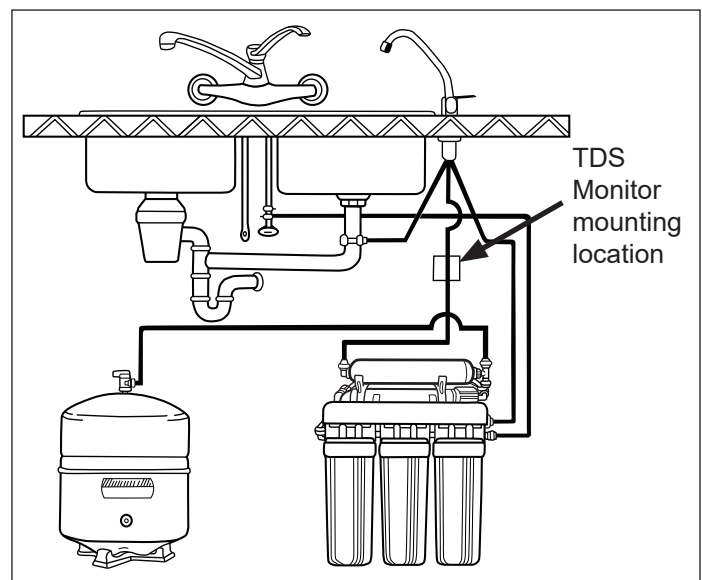

Figure 3. TDS Monitor Mounting Location
2. Orient the sensor pins so that they are perpendicular to the direction of the T. Both pins should be visible when looking through the fitting (Figure 3).
6. The TDS Monitor should be attached as shown in Figure 3 above the RO system.
3. Ensure the orientation of the sensor to the fitting is correct (Figure 3).